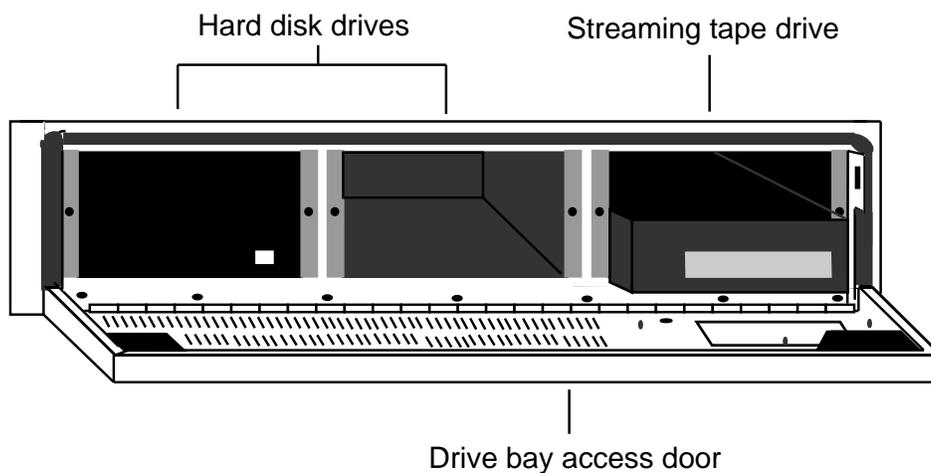

Figure 5-2. Front View — Drive (Peripheral) Bay Door Opened
2. Use the indentations around the slide latches to swing the door open by allowing the door to fall downward, gently, toward you. See Figure 5-2.